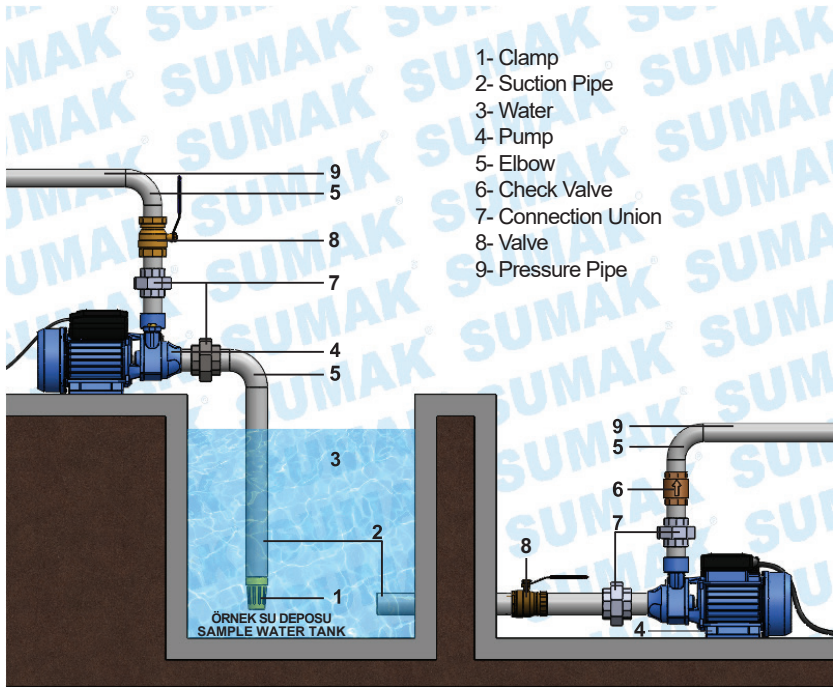
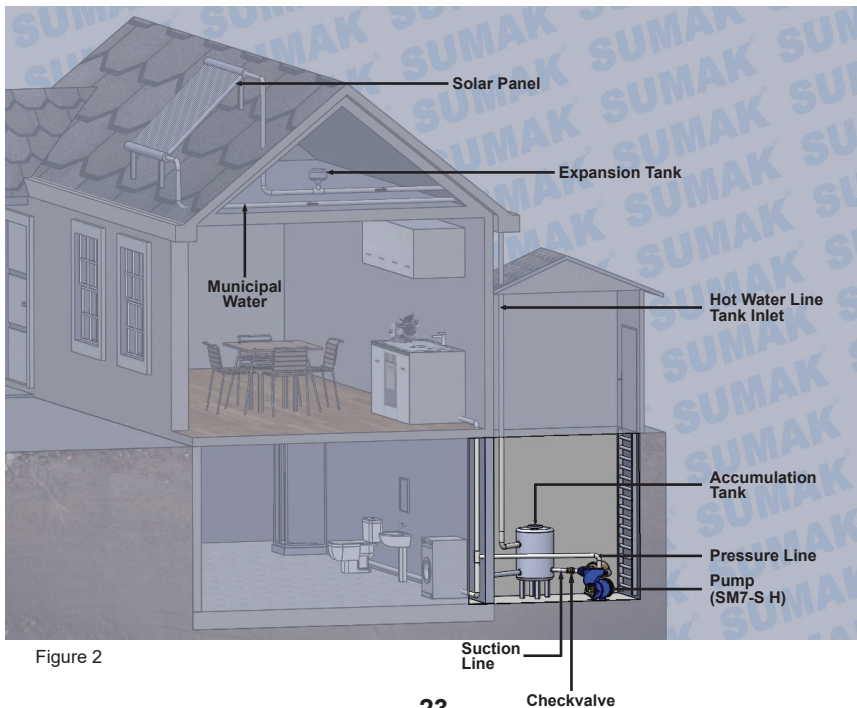

Figure 1
Figure 2
11-If the pump is installed below waterline level, check valve must be fitted to the suction house. Please check page 20, figure 1.
- 31-Please assemble your pump as Page 20 Figure 1.
- 33- Please check Figure 1 in Page 21 for usage of pump and assembly information while mounting, Figure 2 in Page 20 for electric connection, Figure 3 in Page 23 for life security warnings.